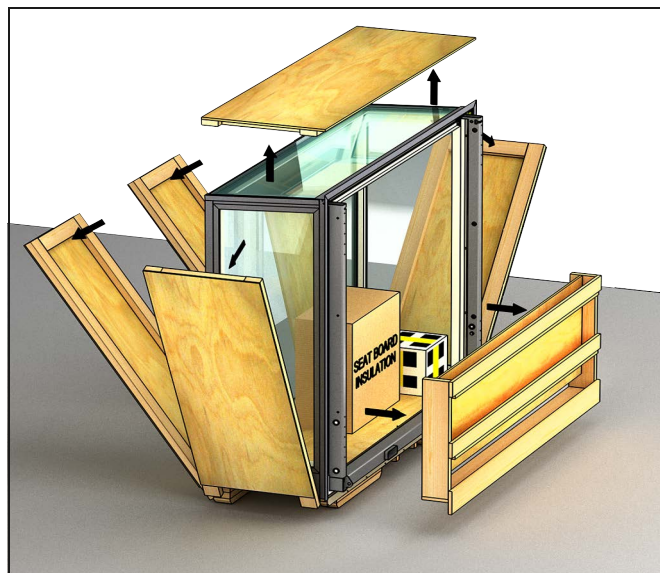

Figure 13
3. Remove all T-20 screws around the exterior of the crate, starting with the top panel first, to disassemble. See Figure 13.